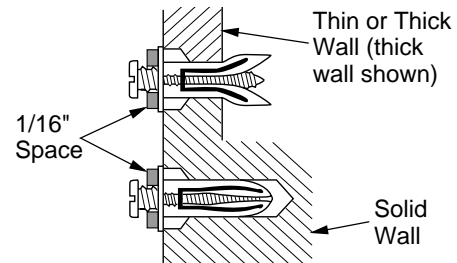

Figure 6 - Tightening Anchors
5. Tighten two screws until 1/16" space (thickness of penny) is between screwheads and wall (see Figure 6).